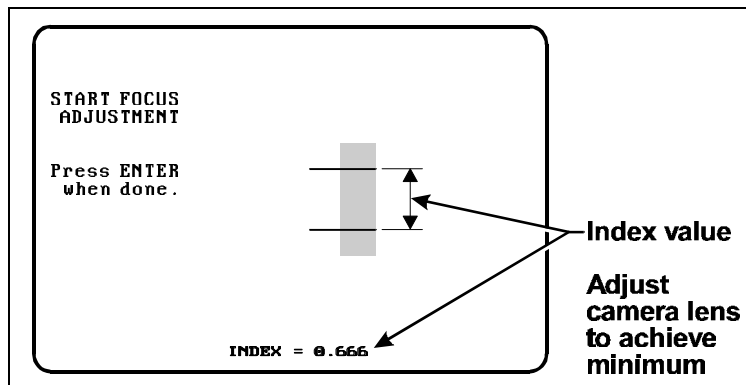

Figure 5-36. Index value displayed on system monitor
6. Press the Enter key to display a yellow bar and numerical value on the system monitor (Figure 5-36).
8. By turning the tool, adjust the lens position to minimize the index value displayed on the system monitor (Figure 5-36). Wait 2 seconds after each adjustment to view its effect.